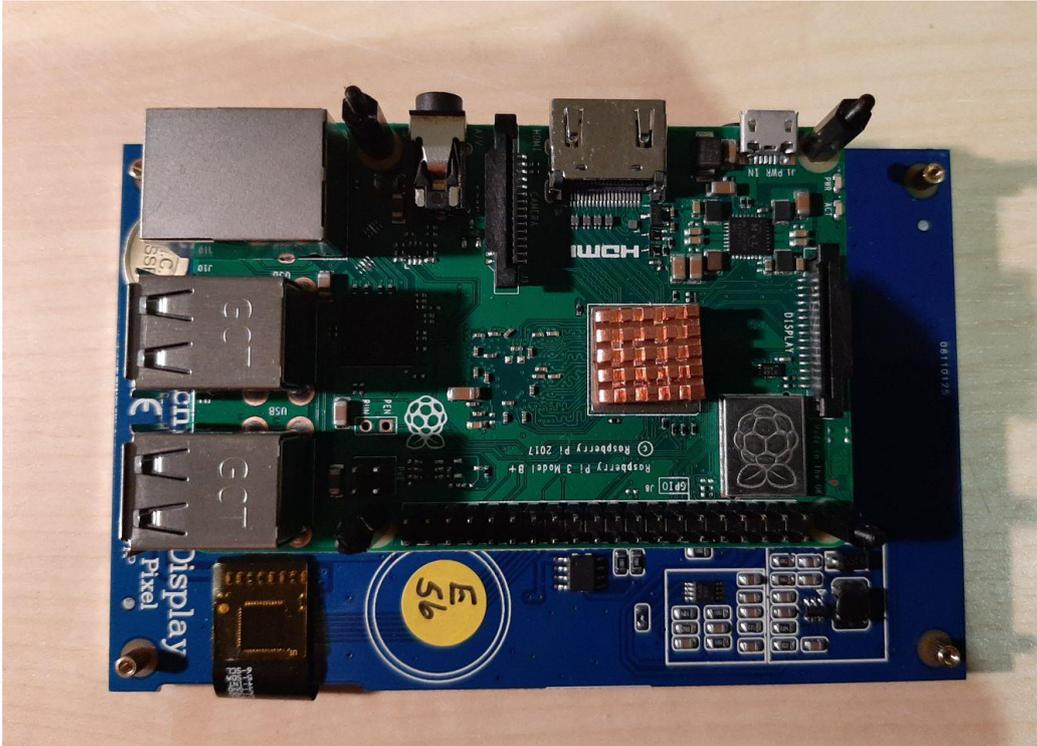

Fig. 6: Raspberry-Pi screwed on the back of the screen using Hex-spacers.
- 1) First screw the Raspberry on top of the screen. I used some nylon 2 mm Hex spacers that were not shipped with the monitor to give the Raspberry a bit more room for ventilation. (see Fig. 6)